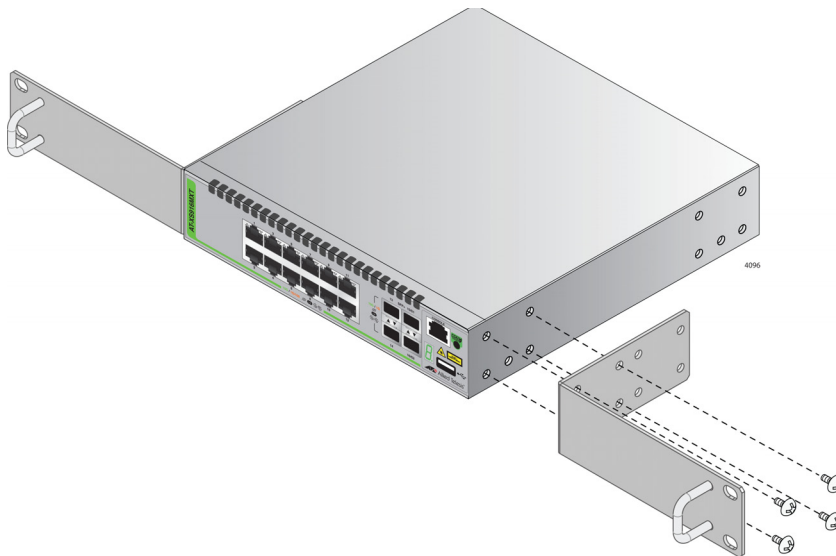

Figure 14. Installing the Brackets on the Switch
6. Attach the two rack mount brackets to the sides of the switch with the eight bracket screws as shown in Figure 14.